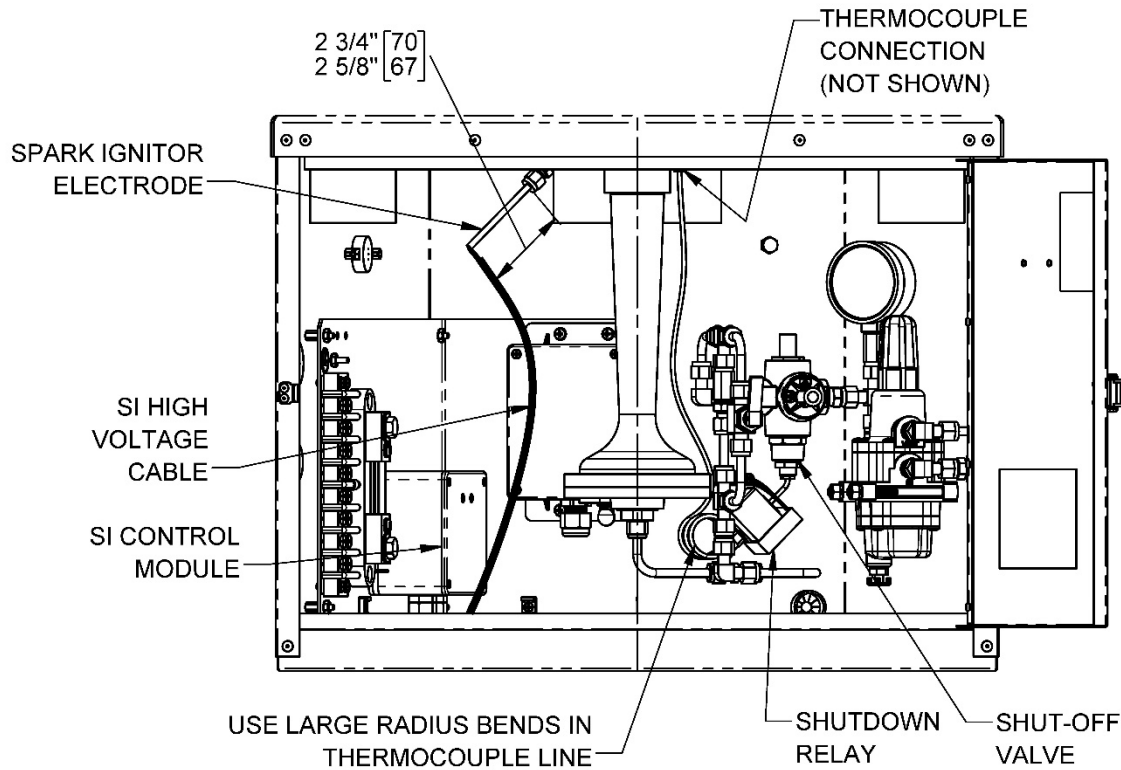

Figure 5 – Installation of Spark Igniter and Fuel Line
- Slide the Spark Igniter Electrode through the fitting on the bottom of the burner until it touches inside, then pull back by approximately 1/8 inch (3 mm). This should leave 2.63 to 2.75 inches (67 to 70 mm) extruding beyond the fitting, refer to Figure 5.